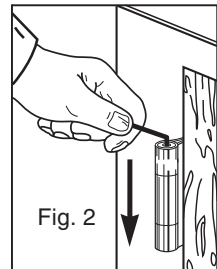

Fig. 2
**To Decrease Torque (Fig 2)**